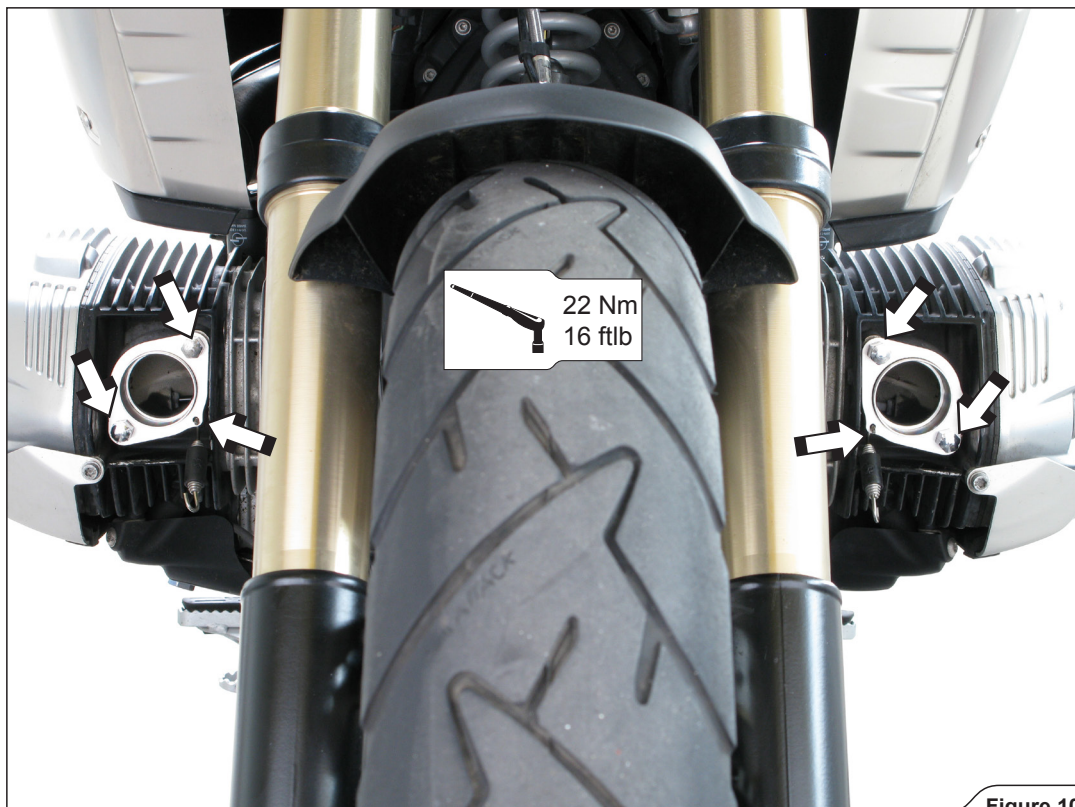

Figure 10
3. Set up the exhaust sleeves together with the flanges and springs; make sure they are correctly oriented. Tighten the flanges to a specified torque using stock nuts (**Figure 10**).